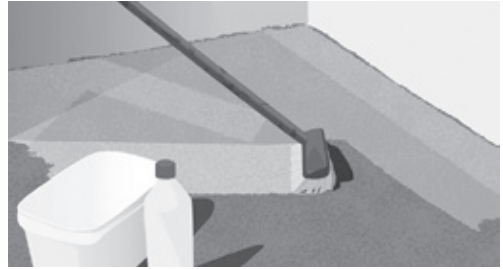

Fig. 3. Clean and prime the floor
7. Prime floor with suitable primer (Fig. 3).